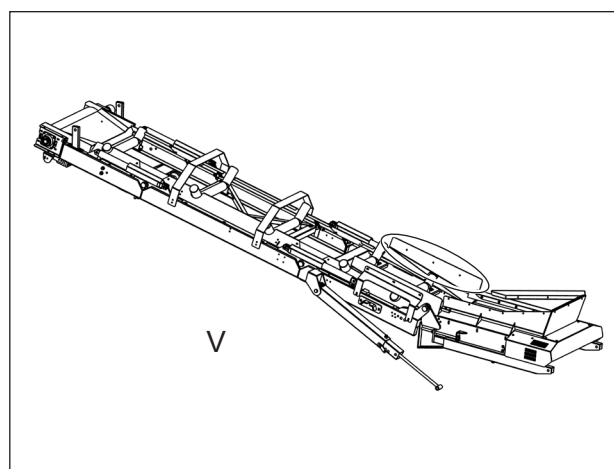

Figure 6.9 - Lower Section of Conveyor
8. Fix the OVERSIZE side conveyor skirting to the lower section of the conveyor (V), Ref: Figure 6.9.